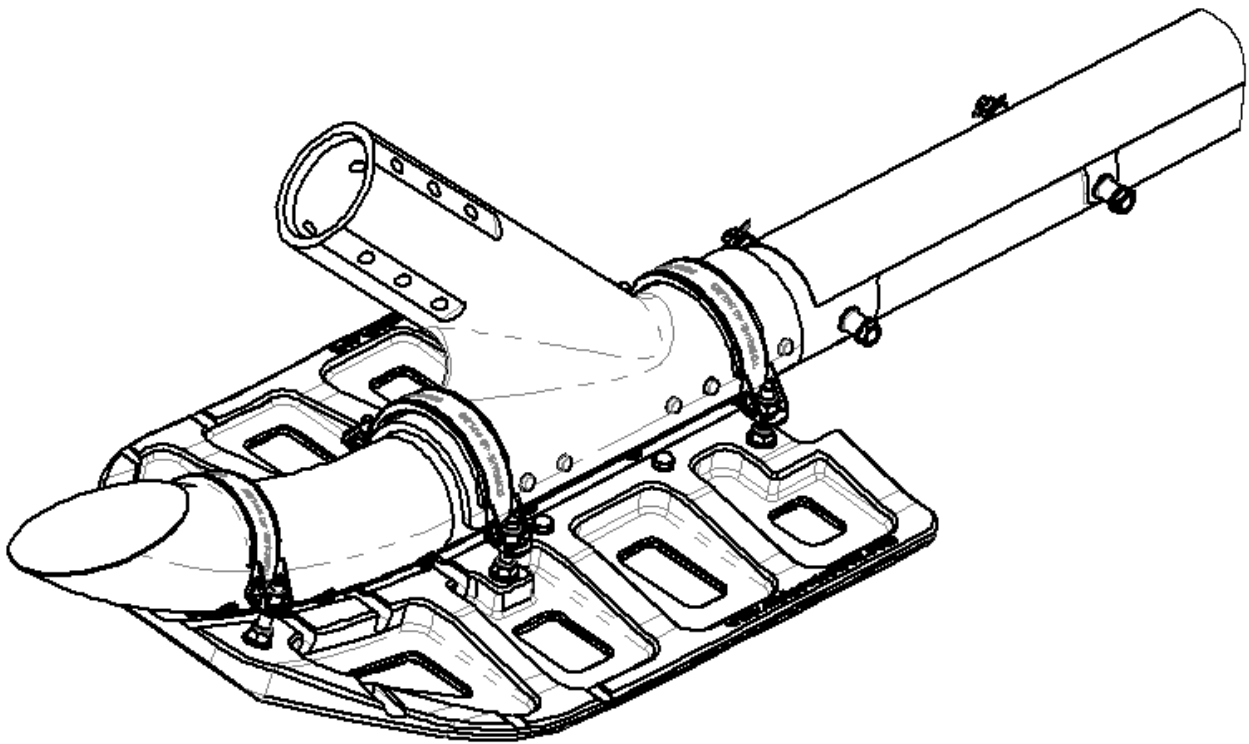

Figure 3
4. Install the Yeti Paw, Assy normally as per AAL-490-035-701 Section 3. Reference Figure 3.